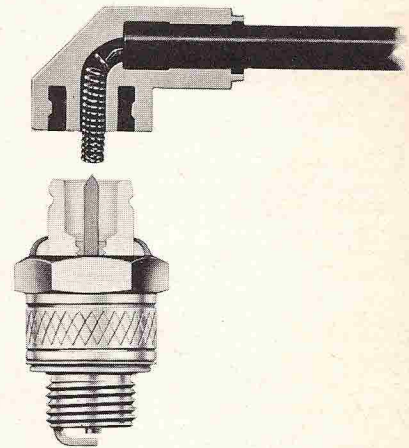

Fig. CS29 — Cut-away view of special "shorty" type spark plug and terminal available for chain saw engines. Refer to Fig. CS29A for a second type special plug.
**SPECIAL TYPES.** Sometimes, engine design features or operating conditions call for special plug types designed for a particular purpose. Of special interest when dealing with chain saw engines are the two-cycle spark plug shown in Fig. CS28, the 'shorty' type plug shown in Fig. CS29, and the 'bantam' type plug shown in Fig. CS29A. In the two-cycle spark plug, the ground electrode is shortened so that its end aligns with center of insulated electrode rather than completely overlapping as with the conventional plug. This feature reduces the possibility of the gap bridging over by carbon formations.
**Fig. CS29A — View showing special "bantam" type spark plug as compared with regular type spark plug of same heat range. Refer also to Fig. CS29 for view of special "shorty" type plug.**